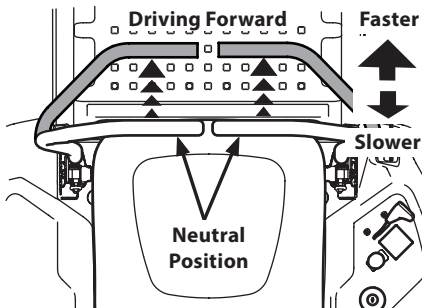

Figure 23
1. Slowly and evenly move both lapbar drive control levers forward. The tractor will start to move forward. See Figure 23.